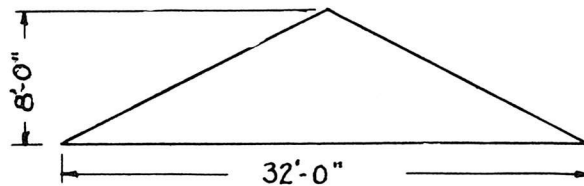

Fig. 1
1. How many square feet are there in the gable end shown in Figure 1?
3. A gable end, similar to the one shown in Figure 1, has a 7'-6" rise and span of 30'-6". What is its area?